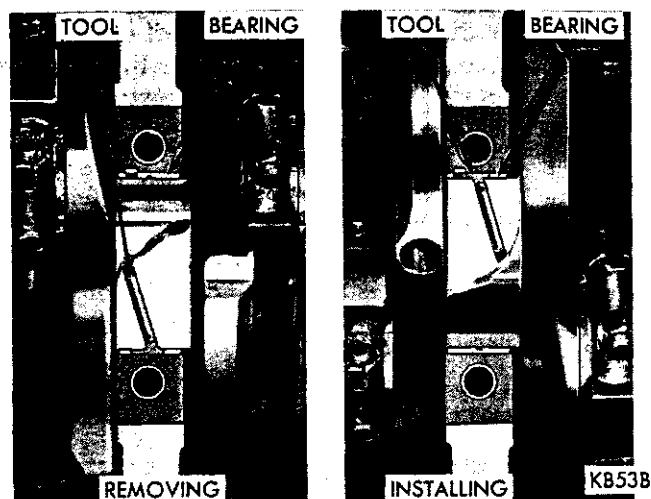

Fig. 33—Removing or Installing Upper Main Bearing while all other main bearing caps are properly torqued.
(1) Remove oil pan and identify bearing caps before removal.
(2) Remove bearing caps one at a time. Remove upper half of bearing by inserting Tool C-3059 (Fig. 33) into oil hole of crankshaft.
(3) Slowly rotate crankshaft clockwise, forcing out upper half of bearing.
(1) Start bearing in place, and insert Tool C-3059 into oil hole of crankshaft (Fig. 33).
(2) Slowly rotate crankshaft counter-clockwise sliding the bearing into position. Remove Tool C-3059.